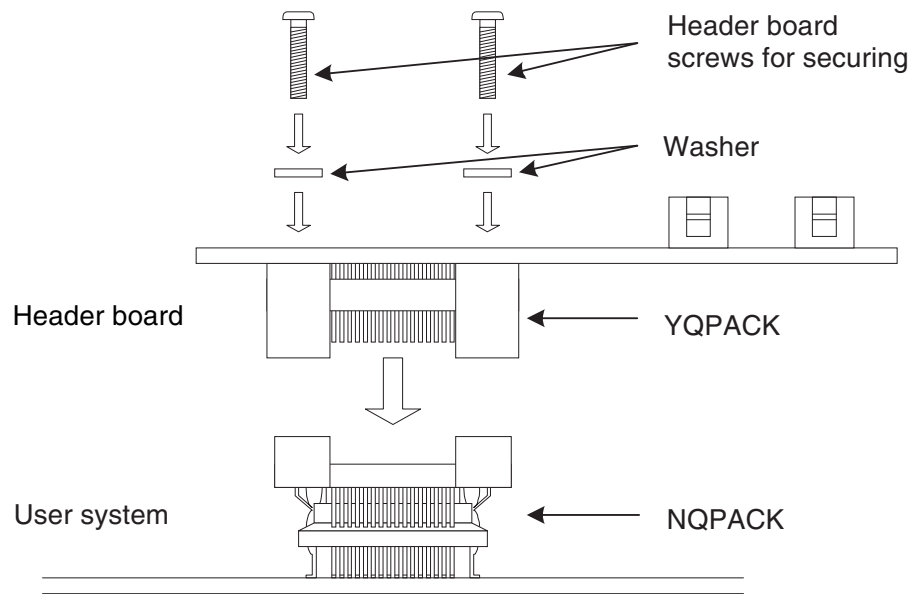

Figure 4 Header board connection
2. Insert each header board mounting screw for header board in each of the four tapped holes on the header board through a washer, and then first tighten the screws in opposing corners followed by the two remaining screws (see Figure 4).